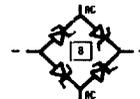

Fig.2
2. Surge Current Waveform per Figure 3 and Derate per Figure 2.